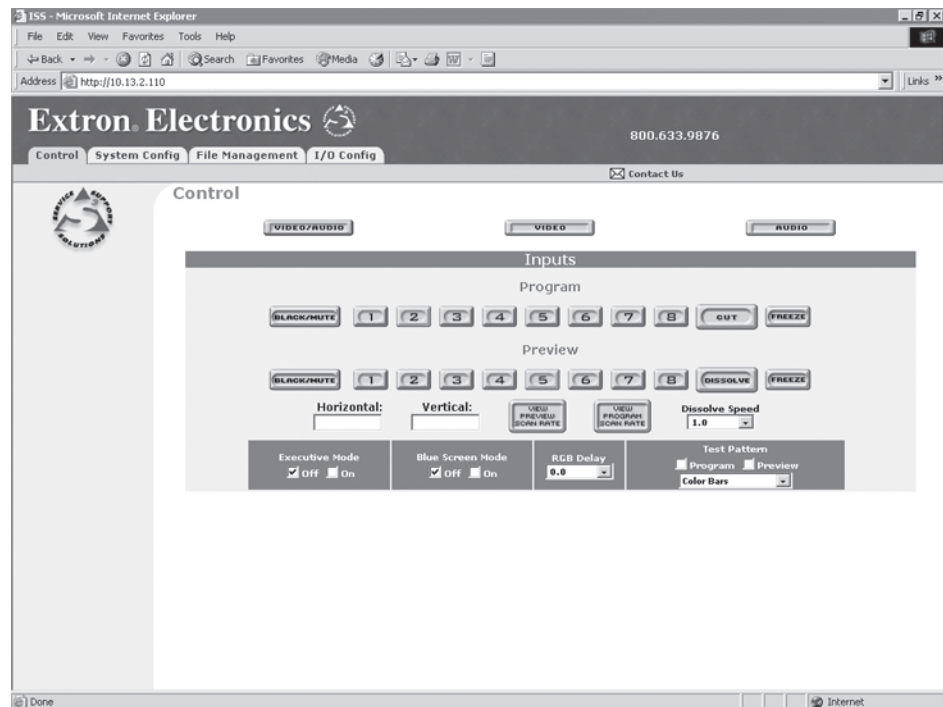

Figure 6-2 — Control page
- c. **If neither of the above conditions is true**, the switcher loads the factory-installed default startup page, "nortxe_index.html" (figure 6-2), also known as the Control page.
The Control page (figure 6-2) provides a means to control the switcher and includes links to three other pages: System Configuration, File Management, and I/O Configuration. On the Control page, you can select an input to the preview output and then cut or dissolve it to the program output or select an input to the program output directly. The Control page also provides facilities to check the frequency of an input and to mute and freeze the outputs. Access the Control page by clicking the *Control* tab.